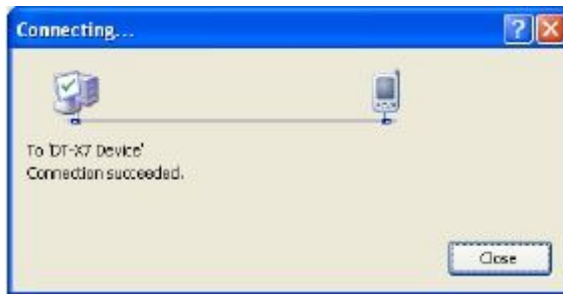

Figure 5.27
6. Select **DT-X7 Device** in the list of **Devices:** and click **Connect** button. The screen in Figure 5.27 if appear indicates the success of connection establishment.